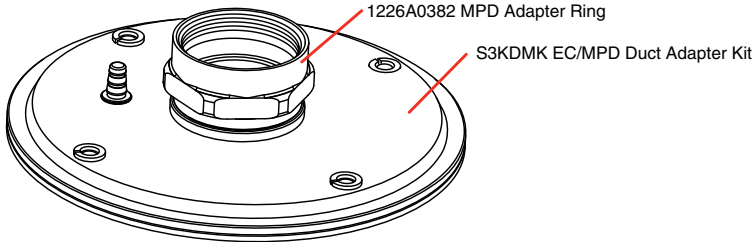

Figure 7. Duct Mount Kit
- e. Duct Mount Kit (Figure 7).